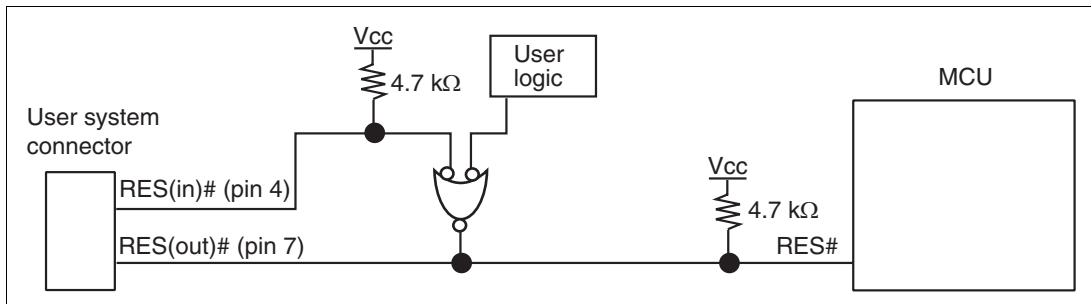

Figure 1.6 Connection of the RES# Pin
- RES(in)# of pin 4 of the user system connector is a signal line in which the emulator outputs signals to the MCU. RES(in)# of pin 4 and the user system reset circuit must be connected to pin RES# of the MCU, as shown in figure 1.6.